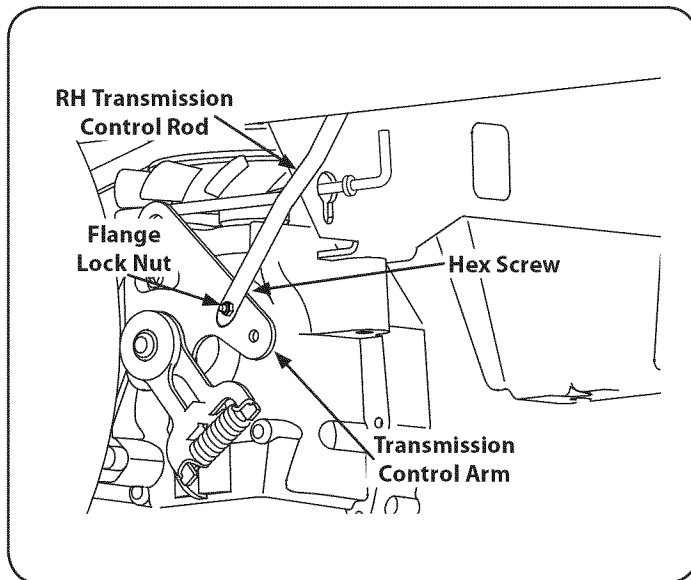

Figure 42
4. If only one wheel is rotating, locate the transmission control rod beneath the frame at the front of the rear tire. If both wheels rotate, locate both control rods. See Figure 42.